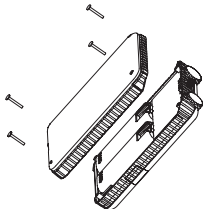

Figure 3. Installing/Removing Li-Ion Battery Frame to/from the Repeater
3. Use a Phillips screwdriver to remove the four corner screws located at each corner on the back of the repeater, disconnect power harness and lift away the repeater back battery frame. Refer to "Figure 3. Installing/Removing Li-Ion Battery Frame to/from the Repeater" below.
7. Secure the Li-Ion battery frame by tightening securely the four screws on each of the four corners on the back of the repeater. Refer to “Figure 3. Installing/Removing Li-Ion Battery Frame to/from the Repeater” on page 12.